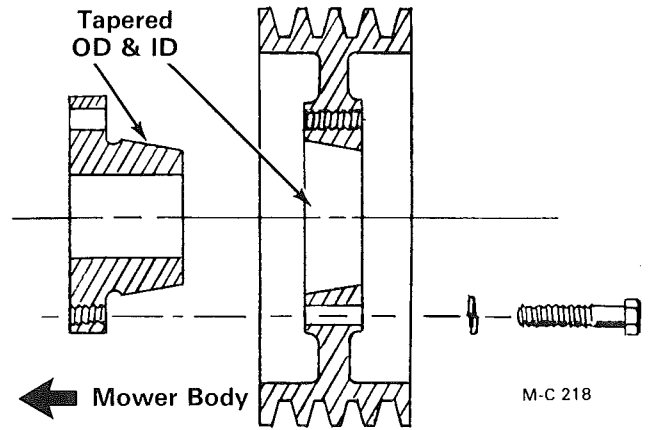

Figure 22
5. Place the bushing into the pulley from the rear so that the bushing flange is to the inside, see Figure 22. The bushing and the bore of the pulley are tapered. Be sure to install the bushing into the large ID of the pulley tapered bore. If the bushing is installed into the small ID of the pulley, the pulley hub will crack when the mounting capscrews are tightened.